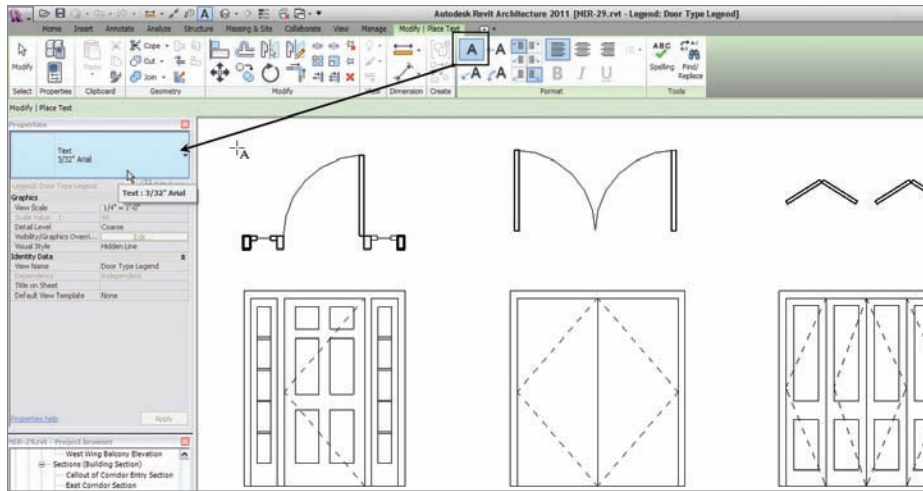

FIGURE 11.45 Placing the text underneath the doors
2. Make sure the text style is Text 3/32" Arial and that the leader is set to None, as shown in Figure 11.45.
3. Place some text centered under each door elevation, and label the doors Type A, B, and C (see Figure 11.45).